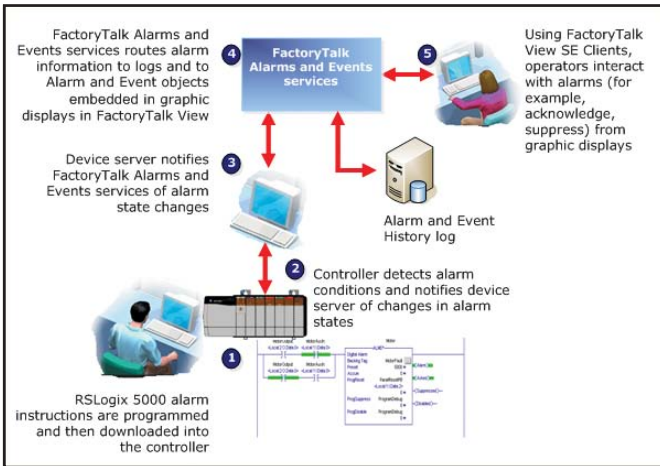

Figure 2. Device-based alarms
- **Device-based Alarms** — Pre-built alarm instructions that are programmed in a Logix5000 project and then downloaded into a Logix controller (Figure 2). The controller detects alarm conditions and publishes event information, which is routed through the system for display and logging.